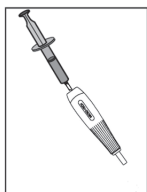
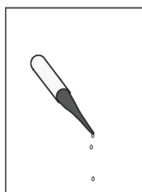

Fig. 4a
Fig. 4b
- It is advisable to flush luer port (guidewire port) of the stent delivery system with a 10cc syringe of saline to expel air. (Refer to Fig. 4a) Continue to flush until saline flows out of the distal catheter tip. (Refer to Fig. 4b)